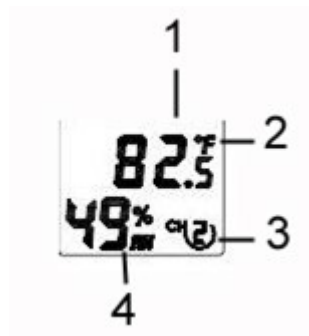

Figure 25
- Verify the correct channel number (CH) and temperature units of measure (°F vs. °C) are on the display, as shown in Figure 25.